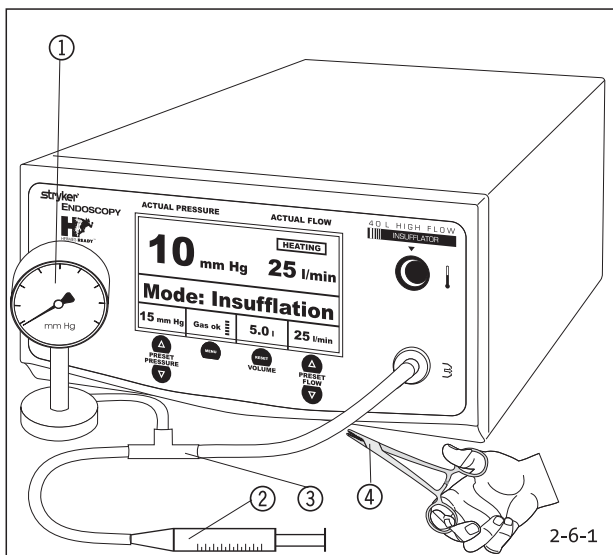

Fig. 2-6-1: Test Layout: Low Pressure Unit Leakage Test
Close device exit using a tube clamp (Fig. 2-6-1, ④).
- ① Tube Connection
- ② Flow Column (40 l/min)
1. Attach a tube and a flow column to insufflation tube connection (Fig. 2-6-1).